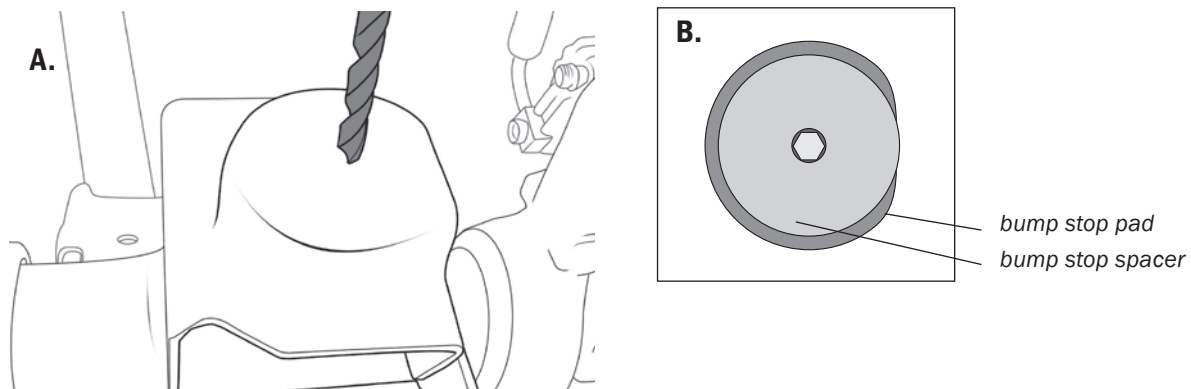

Figure 25
- A. Drill a 3/8 inch hole in the center of the axle bump stop pad (Fig. 25-A).
- B. Place bump stop spacer inside springs (Fig. 25-B).